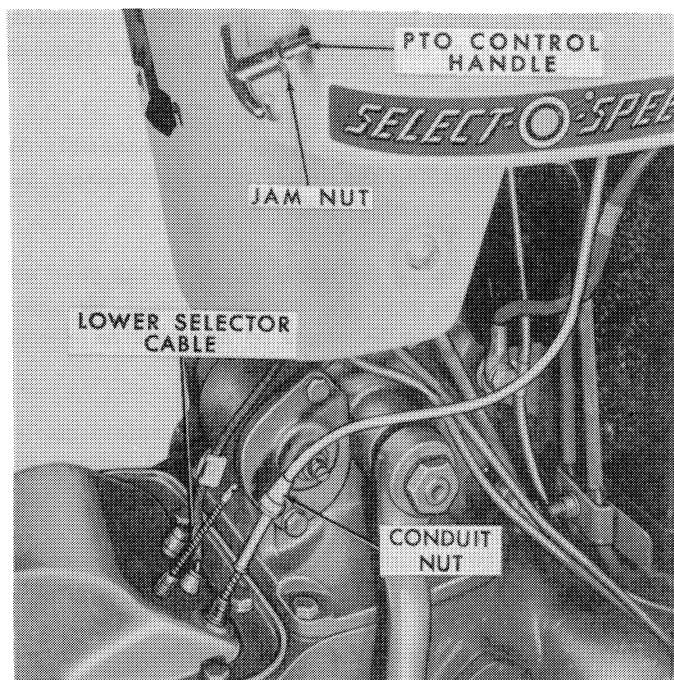

Figure 32
1. Pull the control handle all the way out and completely loosen the conduit nut, Figure 32, at the transmission cover.
1. Install the P.T.O. control assembly in the tractor sheet metal. Install the handle with the roll pin and pull the handle to the "out" position. The upper inner conduit nut is to be loosened slightly. Refer to Figure 32.